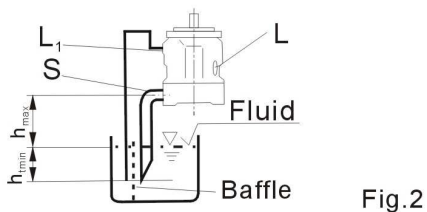

Fig. 2
b) If the minimum fluid level is below the pump mounting face pipe port "L1" and "S" according to Fig. 2.
Before installation fill the pump housing, keeping it in a horizontal position. For mounting above reservoir see Fig. 2.